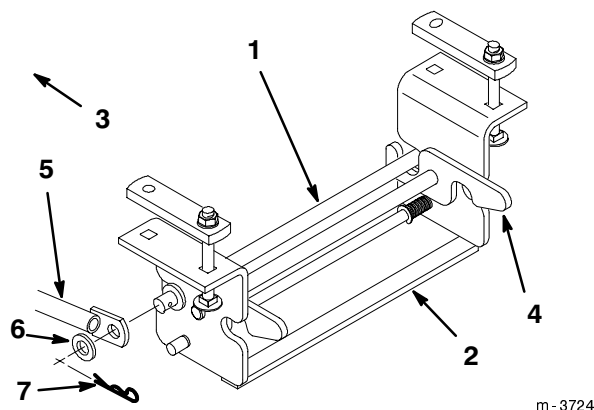

Figure 26
8. Remove the other ends of the two support braces from the rear Attach-A-Matic™ mount by removing the hairpin cotters and washers (Fig. 26).
9. Release the latches on the rear Attach-A-Matic™ and remove the support rod link (Fig. 26).